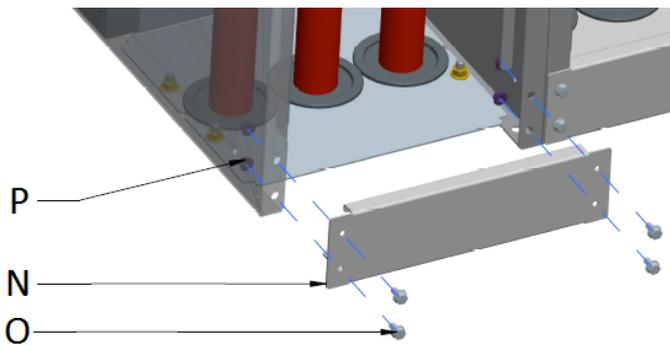

Figure 25: Assembly of the front panel of cable compartment
- Finally, the front panel (Figure 25 N) of the cable compartment needs to be reinstalled using four self-securing hexagonal flange bolts (Figure 25 O) and two self-securing hexagonal flange nuts (Figure 25 P).